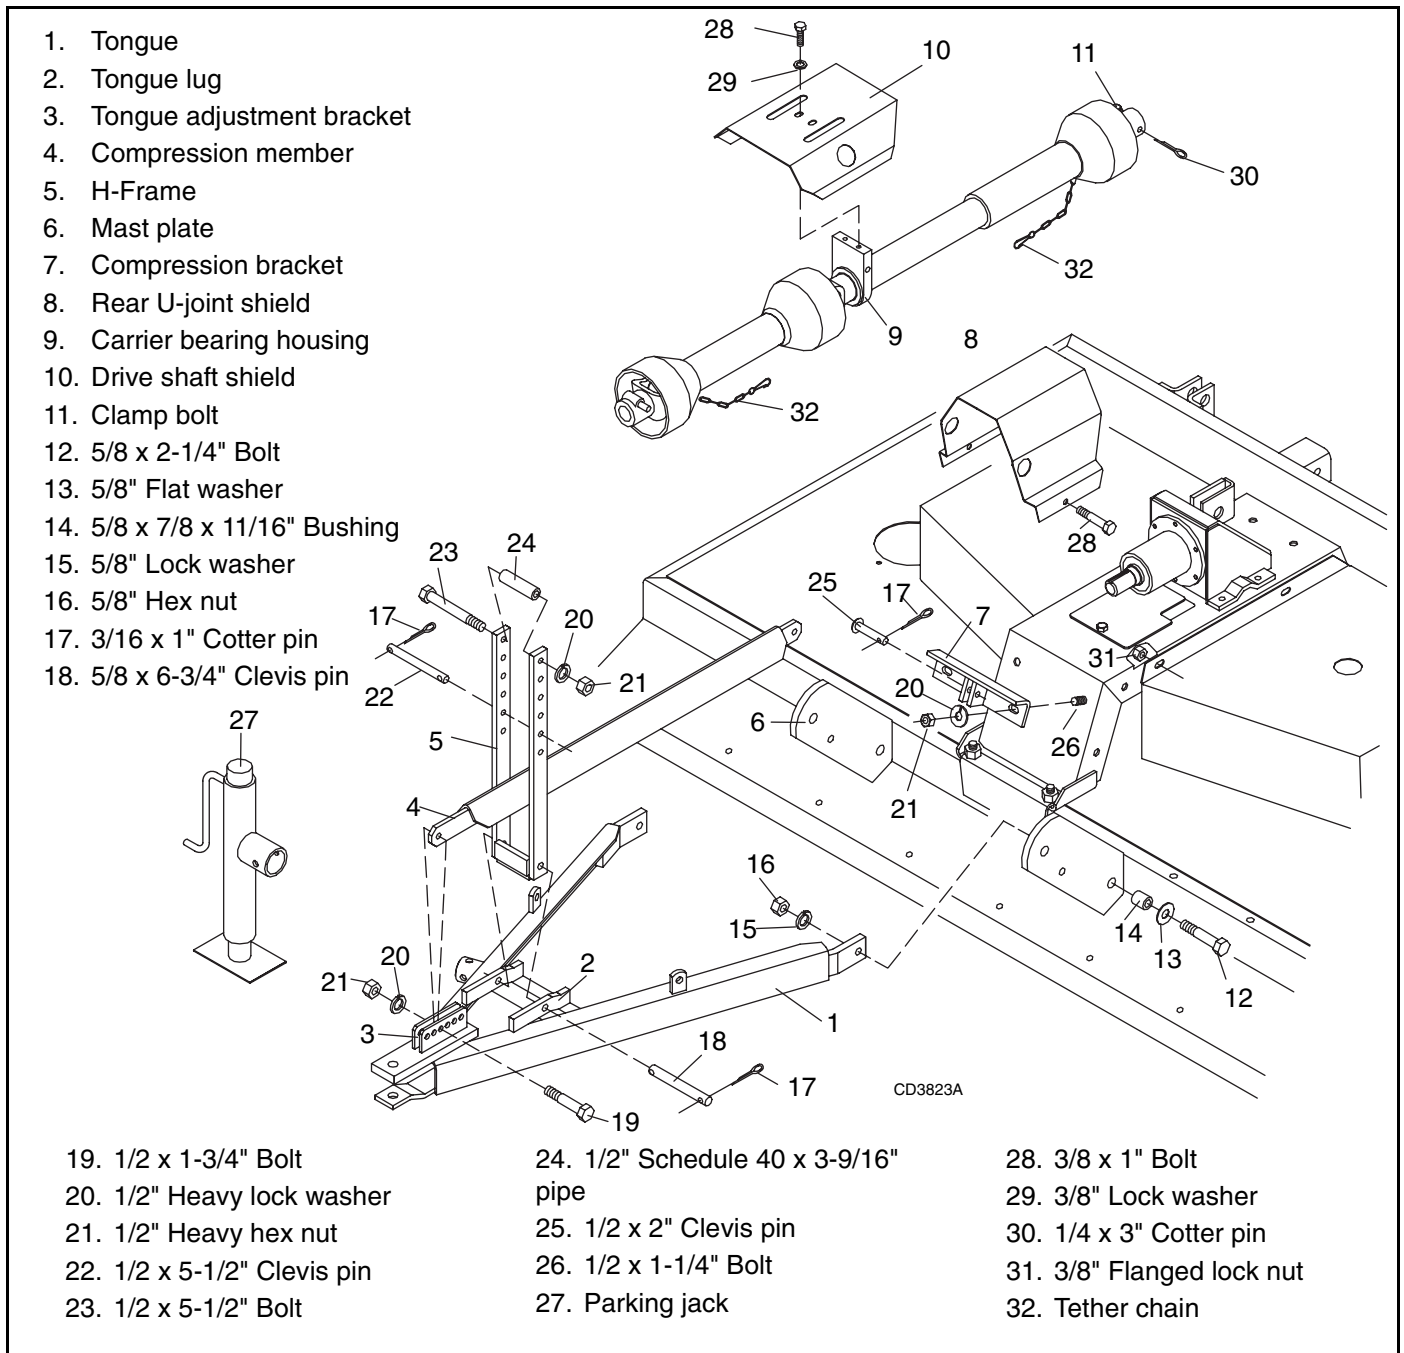

Figure 24. Tongue and H-Frame Assembly
Attach compression bracket (7) to front of gearbox stand with lock washers (20) and nuts (21), see Figure 24.